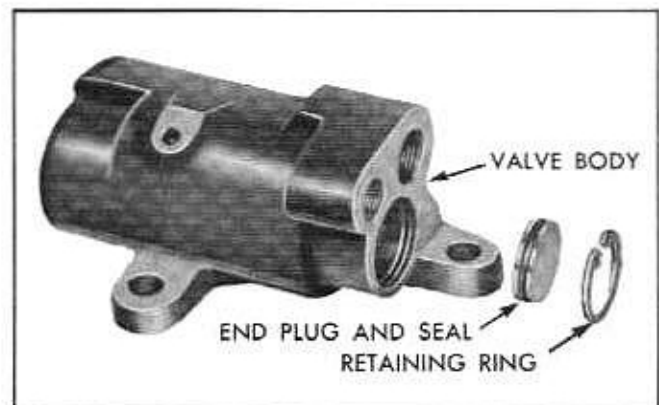

Fig. 9-30 Valve Body Plug and Retaining Ring
3. Remove retaining ring, end plug and seal from valve body using #1 Truarc pliers J-5403 (Fig. 9-30). Remove end plug seal.